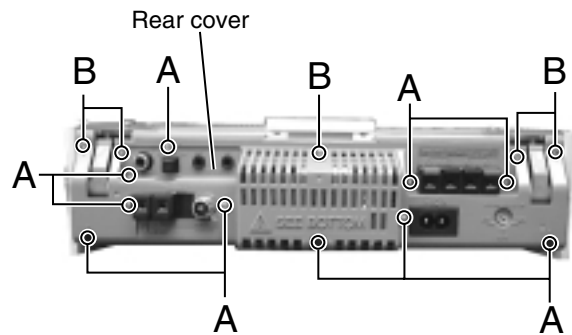

Fig.1
■ Removing the rear cover (See Fig.1)